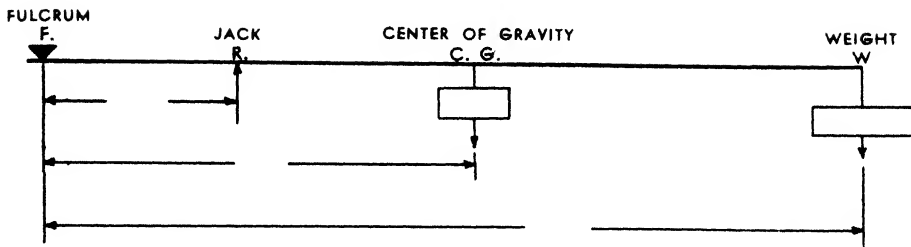

FIG. 146B. LEVER PROBLEM ON HYDRAULIC JACK.
locating the jack about 6 inches from the fulcrum. Hang a 50 lb. weight on the weight hook at the end of the bar. Measure the distances (FR), (FC) and (FW), recording them in the proper places in Fig. 146B. Also place the weight of the bar in the block marked (C) and the weight on the end of the bar in the block marked (W). Using the principle of moments, calculate the total pressing force on the jack at (R).